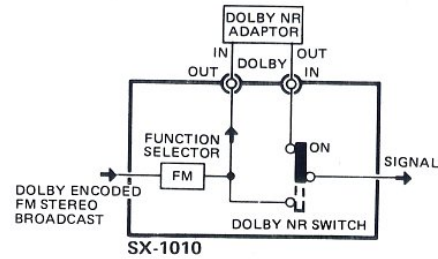

Fig. 18
1. Connect the Dolby adaptor as shown in Fig. 18 to the ADAPTOR DOLBY NR IN and OUT jacks: